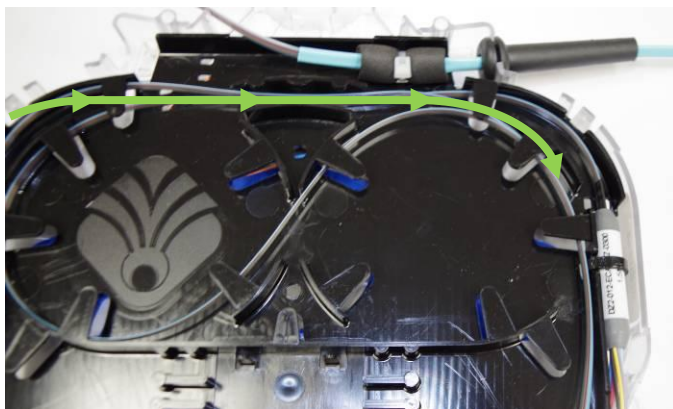

Figure 5
- Step 5:** Route the ribbon from transition **A** on the left (viewed from the front of the cassette) to the right slack storage loop (**Figure 5**).